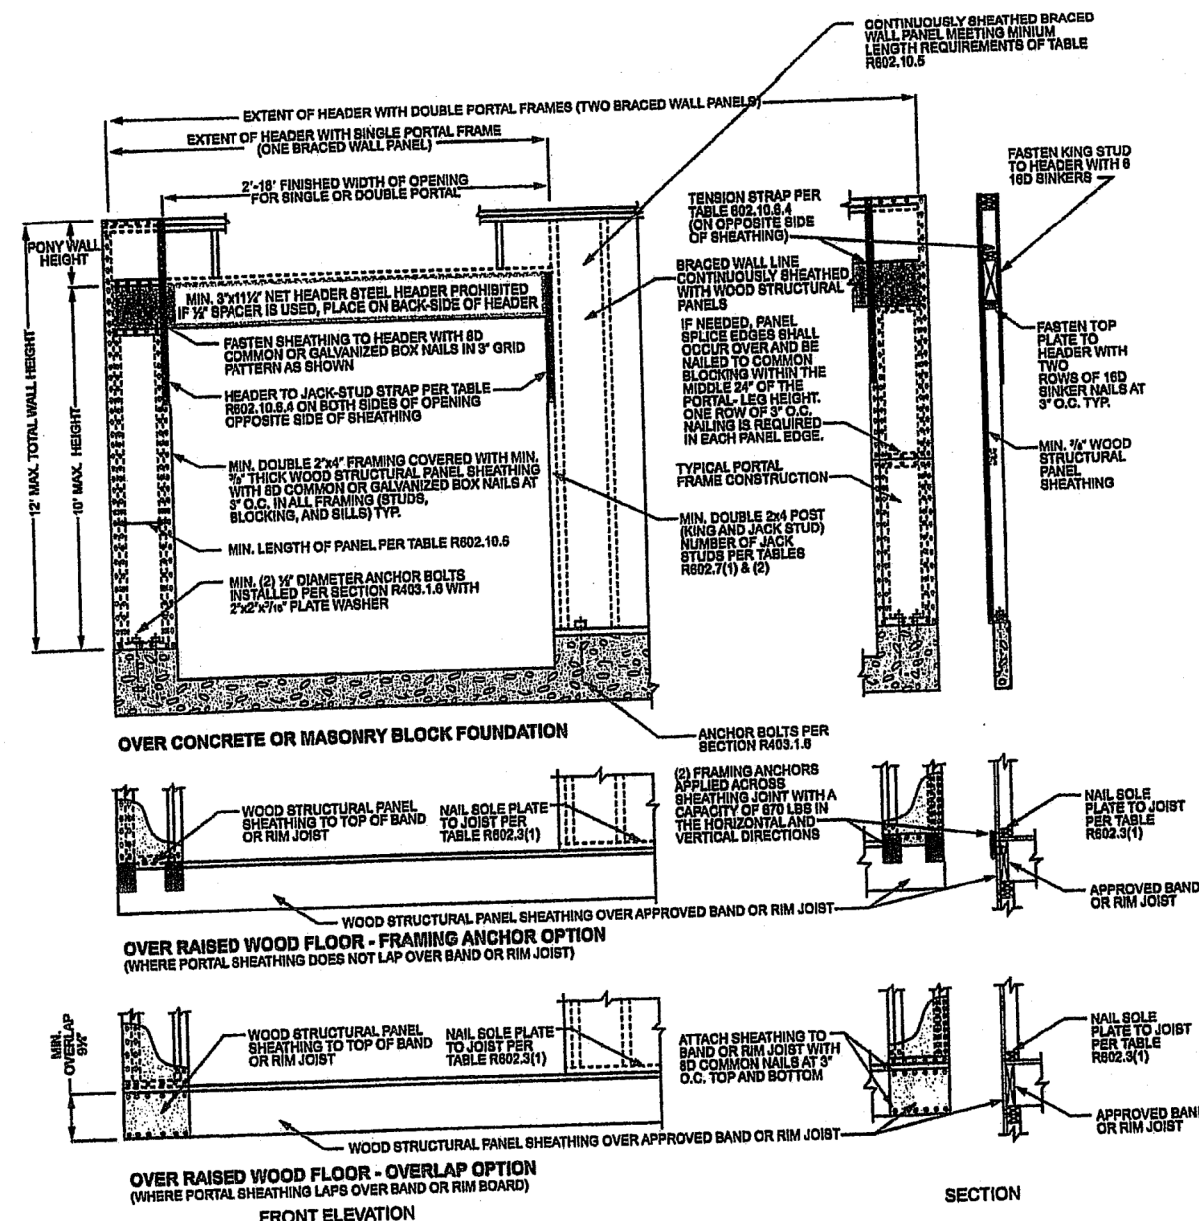

FIGURE R602.10.6.4
d. Maximum header height for PFH is 10 feet in accordance with Figure R602.10.6.3, but wall height shall be permitted to be increased to 12 feet with pony wall.
e. Maximum header height for CS-PF is 10 feet in accordance with Figure R602.10.6.4, but wall height shall be permitted to be increased to 12 feet with pony wall.